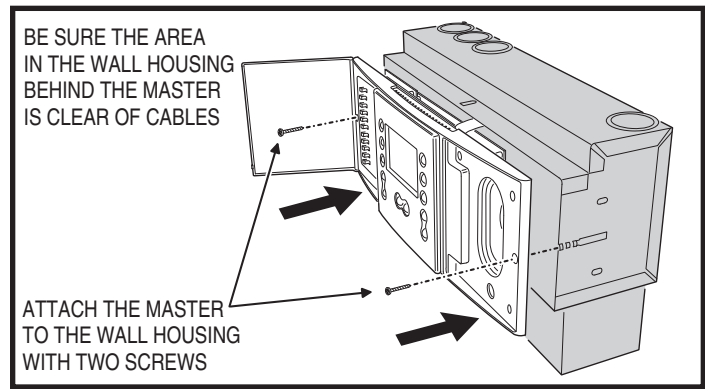

Figure 21. Master Station Only in dmc1H Wall Housing
3. Secure the dmc1 Master Station to the wall housing using the two long screws provided (see Figure 21).